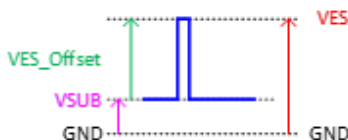

Figure 18. VSUB and VES Reference
38. Figure 18 shows the DC bias (VSUB) and AC clock (VES) applied to the SUB pin. Both the DC bias and AC clock are referenced to ground. The VES\_Offset is referenced to VSUB.